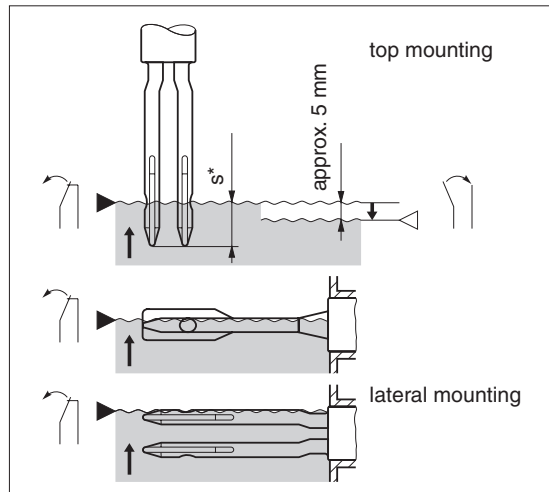

Fig. 3
The position of the switchpoint in relationship to the mounting position is shown in Fig. 3.
Switchpoint as a function of mounting position (shown in Fig. 3)
Fig. 3 a
The switchpoint of the Liquiphant S FDL 60 is determined by the mounting position: the fork is usually laterally on the tank (Fig. 3 and 4).
- For the Liquiphant S FDL 61 the required length L (see Figs. 6 and 7) is the distance from the upper edge of the tank process connection to the switchpoint at the surface of the liquid + s mm (Fig. 3).